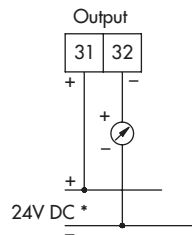

Fig. 5-2: Electrical connection
- ➔ Connect the wires of the converter to the terminals (see Fig. 5-2).
- ➔ Connect the wires to the terminals 11 (+) and 12 (-) using suitable cable glands or connectors. See Fig. 5-2.